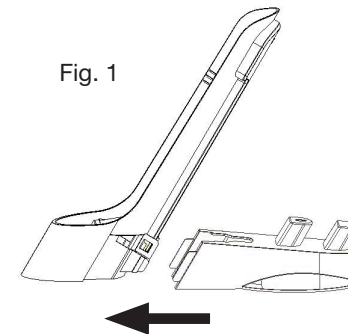

Fig. 1
1. Assemble the charging base as shown in **Figure 1** below.